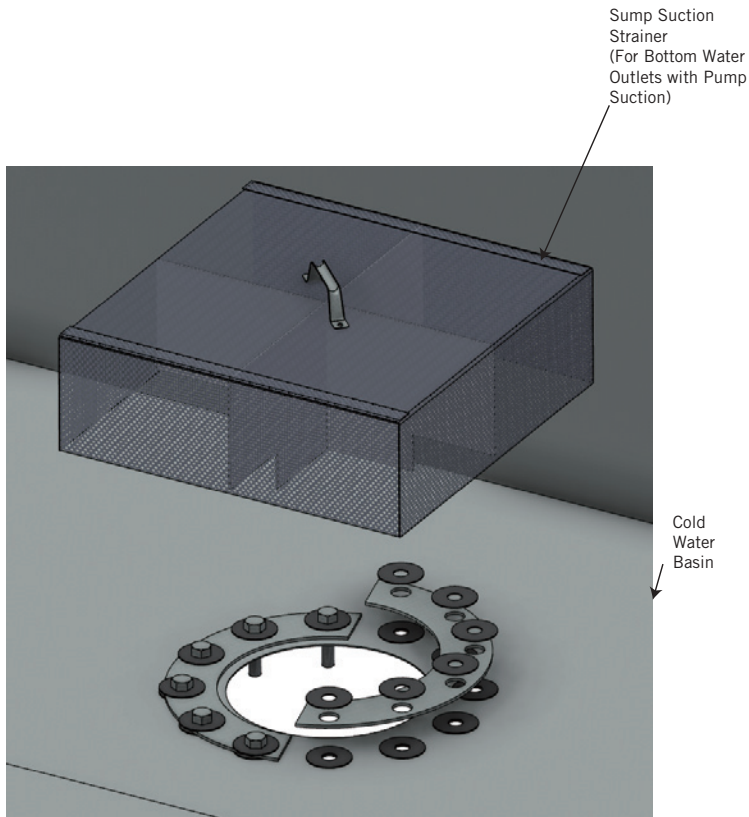

Figure 22. Bottom Water Outlet
1. The bottom connection seal, **Figure 22**, is typical for all bottom outlets, equalizers, and bypasses. Flange mounting hardware and gasket to be supplied by others.